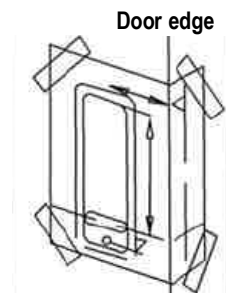

Figure 1
- Correctly position and tape the template, T/034/SBL320, to the internal door face, at the desired height from the floor level. Ensure that the relevant, marked, door edge on template is correctly aligned with actual door edge. (Figure 1)